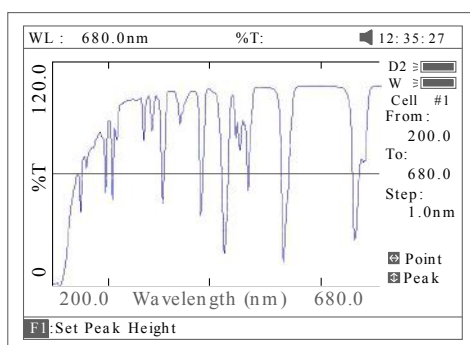

Fig 49
6. Press [F3] to search the Abs/%T value of the scan. There are two ways for you to search (Fig 49).